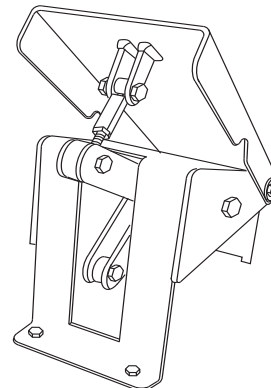

Figure 13. Blade Speed Control Foot Pedal
- The foot pedal (Figure 13) solely controls blade speed. The position of the foot pedal determines the blade speed. Slow blade speed is obtained by slightly depressing the pedal. Maximum blade speed is obtained by fully depressing the pedal.